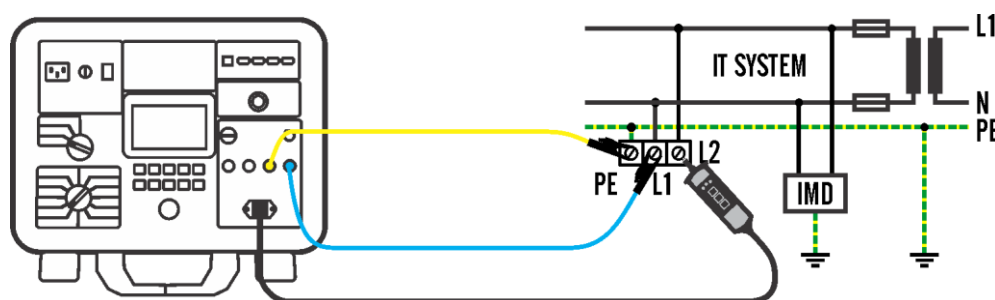

Figure 57: Connection for IMD measurement, example
- 8) Connect test leads according to the figure 57, see also HELP/CONNECTION menu. Green mains icon will be displayed when the connection is properly done and input voltage $U_{L/N}$ is within 100 ... 253 VAC.